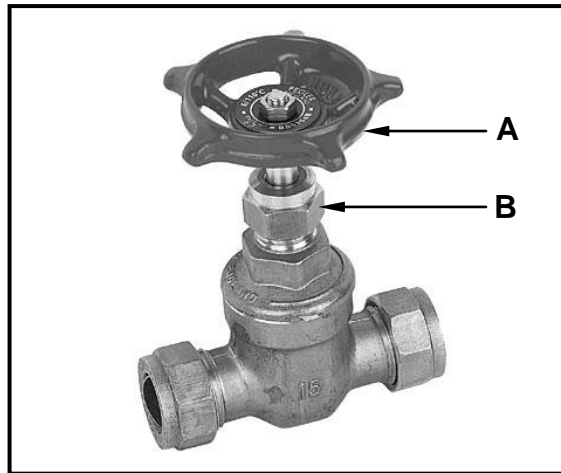

FIGURE 4.4
4.4 FIGURE 4.4 below shows a picture of a valve used in the cold-water supply of a house. Study the picture and answer the questions that follow.
- 4.4.1 Identify the valve in FIGURE 4.4. (1)
- 4.4.2 Identify parts **A** and **B** in FIGURE 4.4. (2)
- 4.4.3 Recommend ONE place where the valve in FIGURE 4.4 can be used. (1)